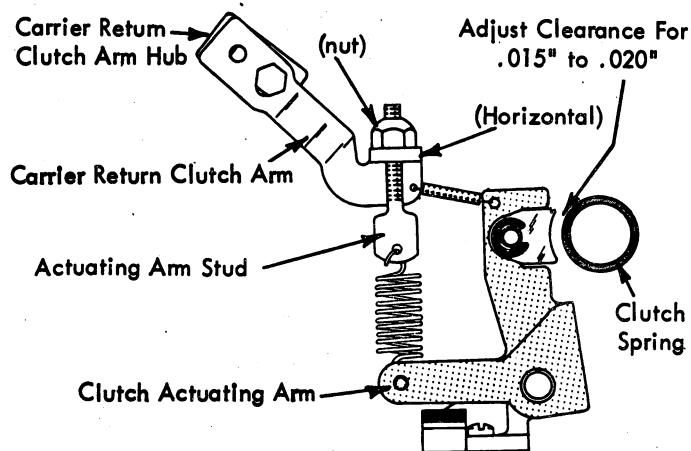

FIGURE 209. Carrier Return Actuating Arm Adjustment
6. **Carrier Return Clutch Arm** - Adjust the clutch arm on the carrier return clutch arm hub so that the formed lug which mounts the actuating arm stud will be horizontal when the machine is at rest (Fig. 209).
7. **Shoe Clearance** - The nylon shoe on the clutch actuating arm should clear the carrier return clutch spring by .015" to .020" when the machine is at rest (Fig. 209). Adjust the nut on the actuating arm stud to obtain the proper clearance.